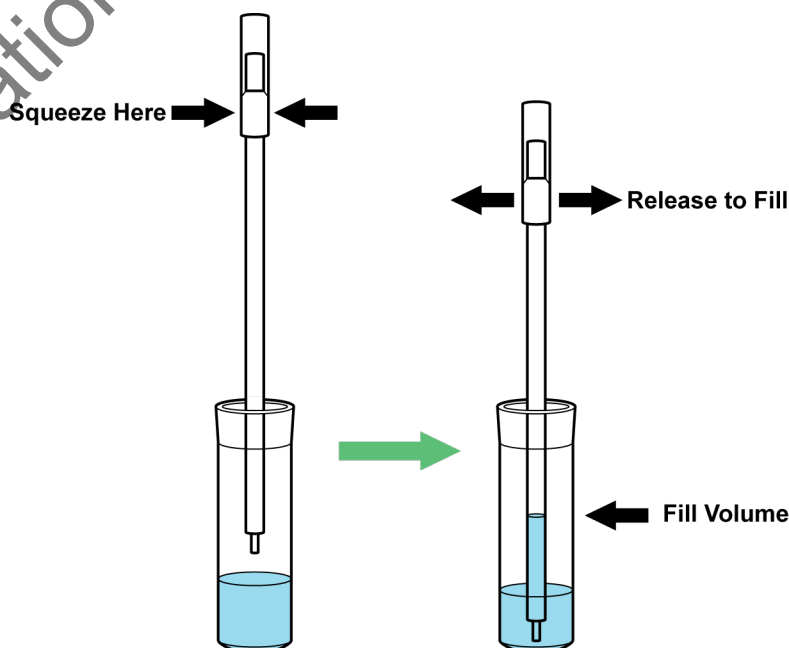

Figure 6. Transfer Pipette
1. Squeeze the bulb of the transfer pipette **completely** and place the pipette tip in the specimen transport tube containing the patient specimen (see Figure 6).